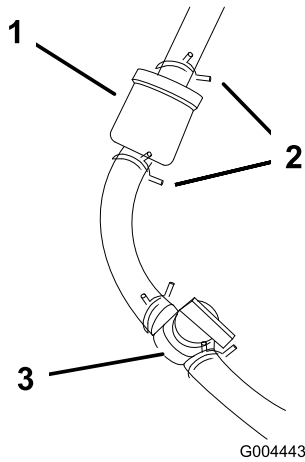

Figure 35
4. Close the fuel shut-off valve (Figure 35).
5. Squeeze the ends of the hose clamps together and slide them away from the filter (Figure 35).
7. Install a new filter and move the hose clamps close to the filter to secure the fuel line (Figure 35).